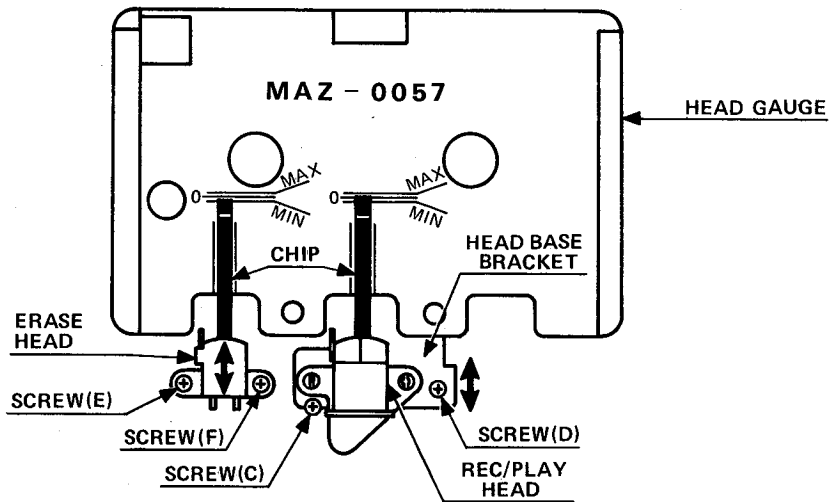
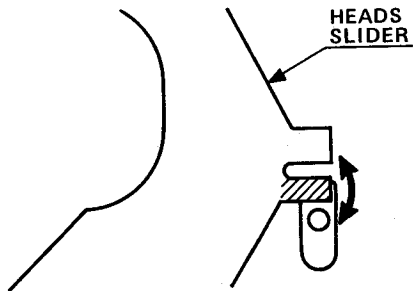

Fig. 2
Fig. 3
3. Set the unit at auto search position and adjust the head base bracket so as the top end of the adjustment chip (MAZ-0181(B)) comes to between 0 and MAX on the head gauge as shown in Fig. 2 by loosening and refastening the screws (C) and (D).
4. Depress playback button and adjust the head by shifting the shaded part of head slider to the directions as shown in Fig. 3 so as the top end of the attached adjustment chip comes to between MINI and 0 on the head gauge as shown in Fig. 2.
3. Depress playback button and set the head to the position where the attached adjustment chip comes to between MIN and 0 on the head gauge as shown in Fig. 2 by adjusting with screws (E) and (F).